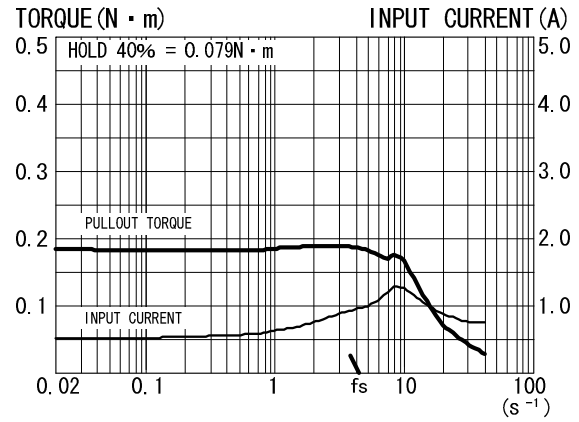

Fig. 3
| | PK545-A (B) | 0.72 | 0.75 | F | Fig. 3 |